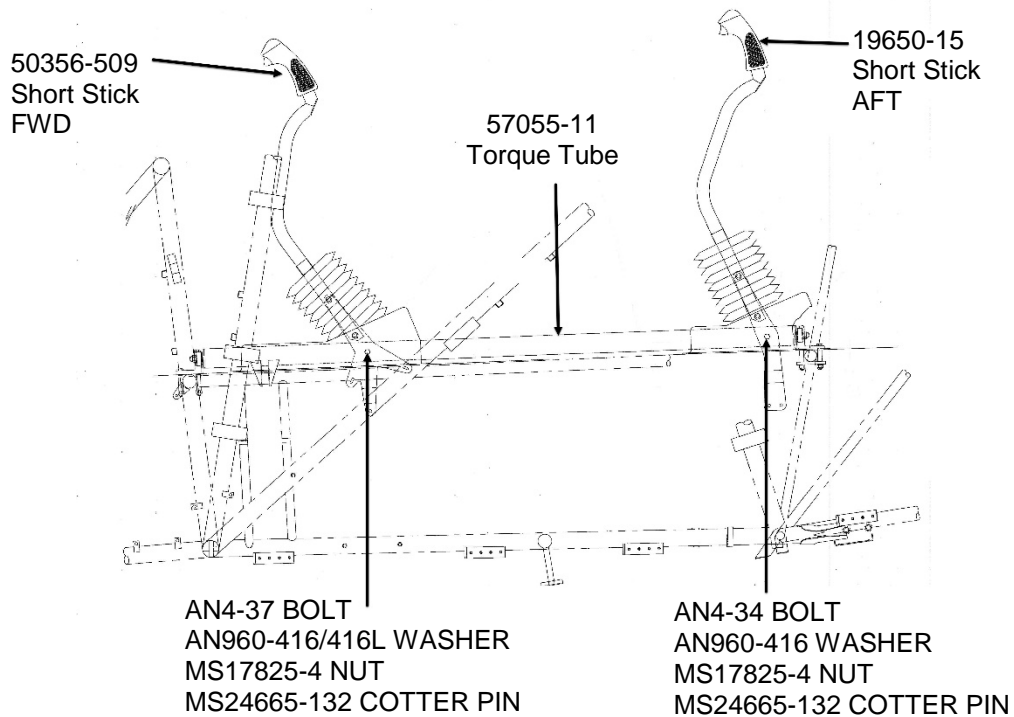

Figure 45-12
- e) For dual cockpit dual control configuration **only**, incorporate changes per figure 45-12 as follows: